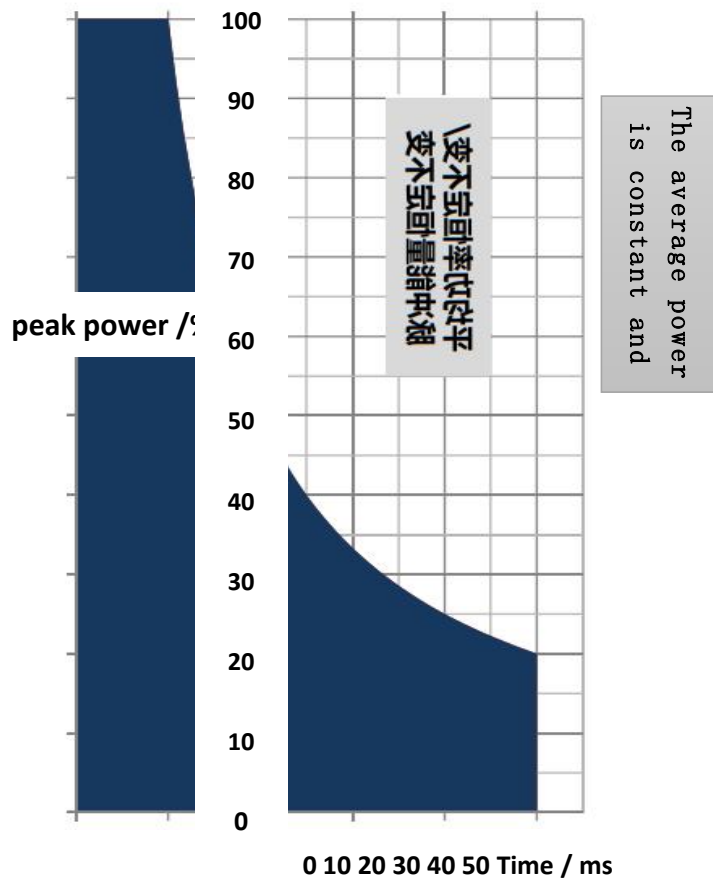

Figure 10-1 Operating range of the pulse mode
The biggest difference between pulse and modulation mode is that the peak is the same (see product specification and [Figure 10-1 pulse mode working range]); while in modulation mode, the QCW maximum single pulse power (J) maximum (pulse width X peak) is fixed, and the PWM high frequency power is only related to the duty cycle and peak, regardless of the frequency.